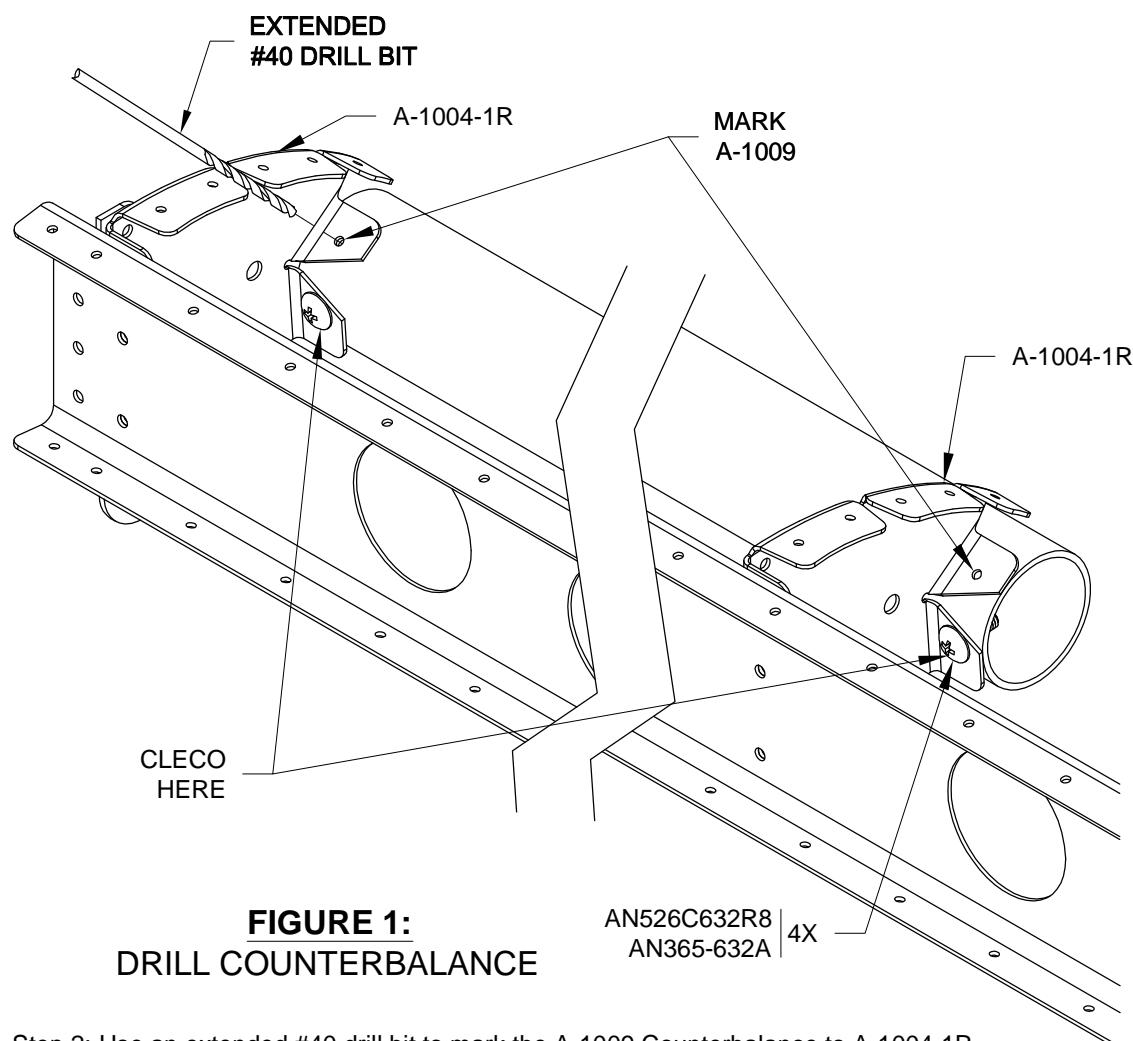

FIGURE 1:
Step 2: Use an extended #40 drill bit to mark the A-1009 Counterbalance to A-1004-1R Nose Rib attach holes on the spar by leaning the drill in alongside the rib as shown in Figure 1.